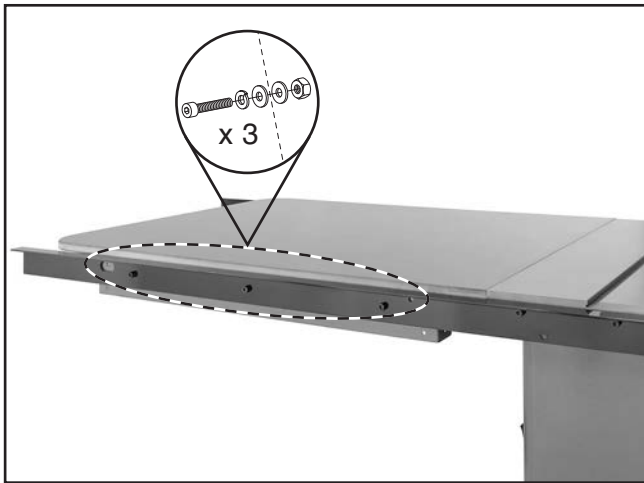

Figure 6. Rear rail/table fastener locations.
- Fasten 79" rear rail to extension table with (3) M8-1.25 x 25 cap screws, (3) 8mm lock washers, (6) 8mm flat washers, and (3) M8-1.25 hex nuts, as shown in **Figure 6**. Finger tighten for now.